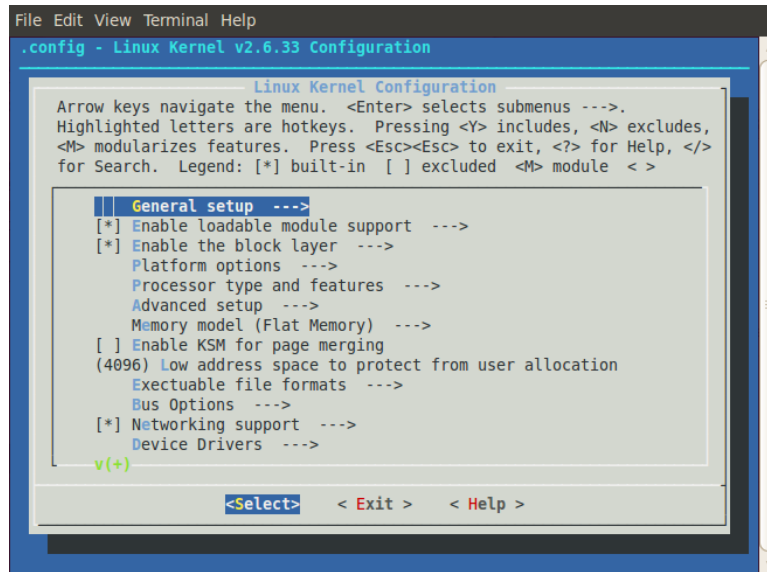

Figure 9: The Linux Kernel Configuration Tool “menuconfig”
- (g) A window similar to that depicted in Figure 9 will appear. Navigate to 'Platform options' and hit enter. Scroll down to the 'Physical address where Linux is' field and change the default value to the start address of the 256 MB DDR2 SDRAM. Note that this value can be found in the 'Addresses' window within XPS. After boot-up, the system will operate using virtual memory. However, initially the boot code needs to know where to place the uncompressed Linux kernel, and that is exactly what we are specifying here.